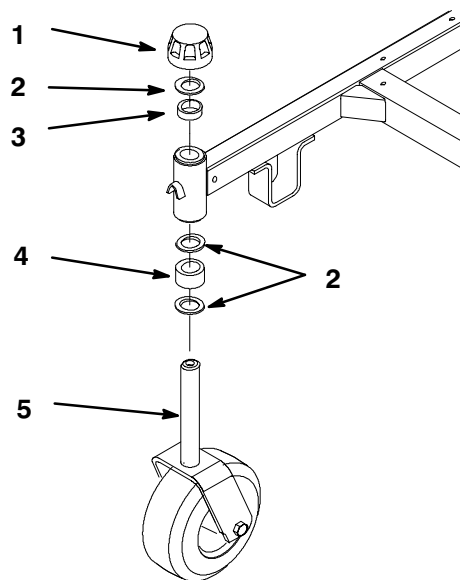

Figure 70
2. Remove the cap, thrust washer and 1/2" spacer from the top of the castor wheel fork (Fig. 70).
6. Inspect the castor wheel fork for wear and replace if necessary (Fig. 70).
7. Slide the castor wheel fork through the bushings in the castor hub. Replace the 1/2" spacer and thrust washer onto the fork and secure with the cap (Fig 70).